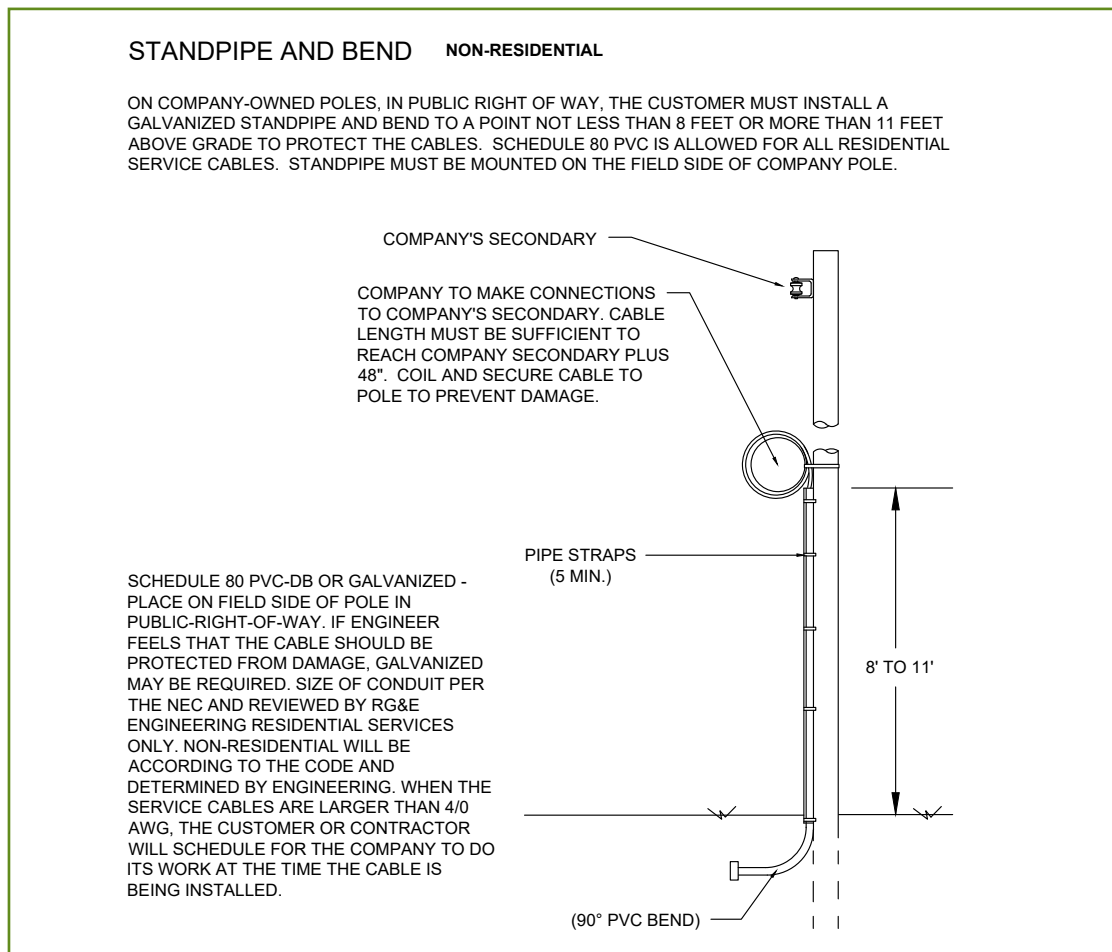

Figure 32
- Install standpipe and bend. (Refer to Figure 32 on page 52)